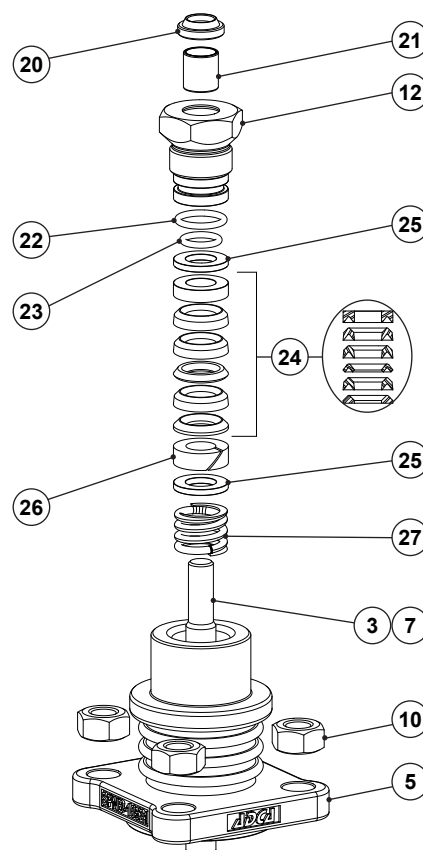

Fig. 11
10. Carefully slide the stem sealing components into the packing box according to Fig. 11.
11. Renew the scraper ring (20), plain bearing (21) and O-rings (22, 23) if necessary. Fit the O-rings (22, 23) and gland nut (21), screwing it loosely.
12. Firmly press the valve plug (3) against the seat (2) while tightening the body nuts (10) in a crisscross pattern by hand. Raise the stem until the valve reaches full stroke position and firmly push the stem fully downwards.
14. Tighten the gland nut (12) with the recommended torque – see section 9.9 – Tightening torques.